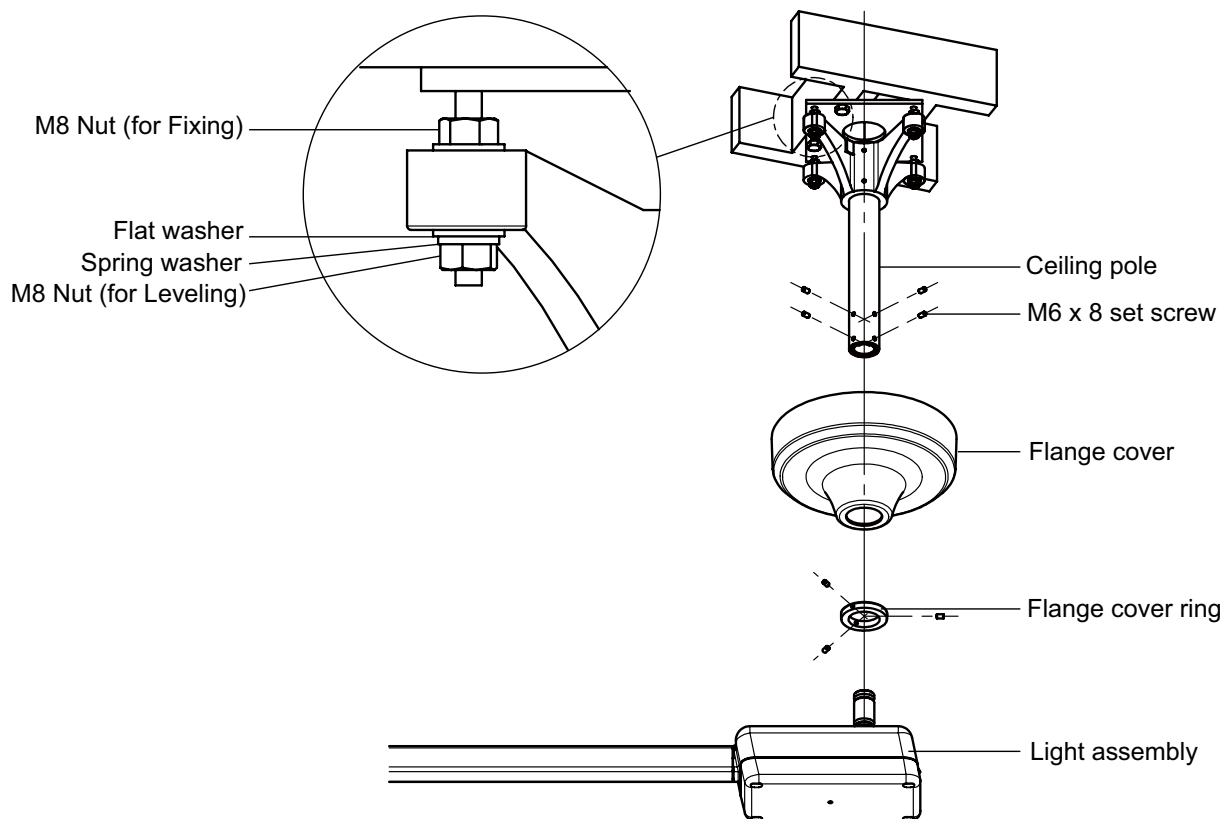

Fig.12
- (1) Be sure the ceiling pole is plumb. Adjust vertical level of the ceiling pole with leveling nuts (M8) and secure ceiling flange to flange base with fixing nuts (m8)
- (2) Slide the flange cover and flange cover ring (flat side up) over the ceiling pole and secure them about half way up the pole. Use only one set screw as you will be moving the on final installation.
- (3) Install the light assembly to the ceiling pole running the 3 wires cord up through the pole to the ceiling flange. Secure it with 4 allen set screws. (Be careful not fall off the light assembly.)
- (4) Connect the incoming power to the 3 wires cord from the light assembly. Be sure to follow the local electrical codes.
- (5) Reposition the flange cover and secure it with the flange cover ring. Secure three M6 x 8 set screws.
* Refer to **Fig.12** for each components.